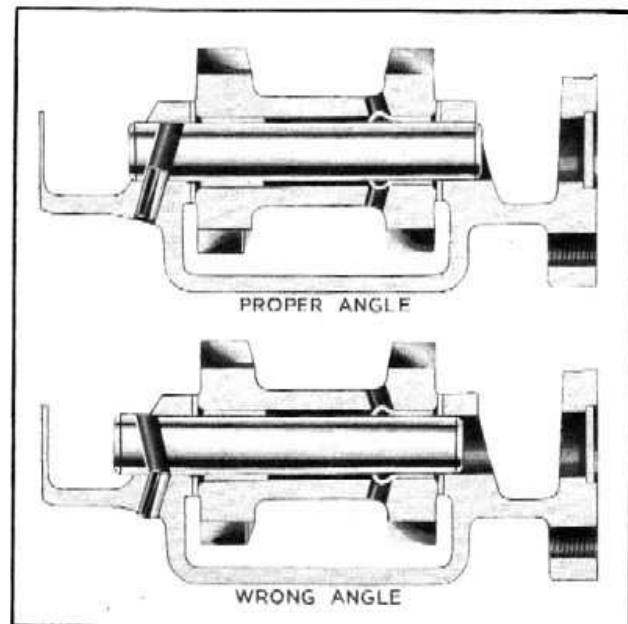

Fig. 10—Reverse Idler Gear, Shaft and Lock Pin
- Install the idler shaft, making sure that the lock pin hole in the shaft lines up with the hole in the case at the same angle. (See Fig. 10.)